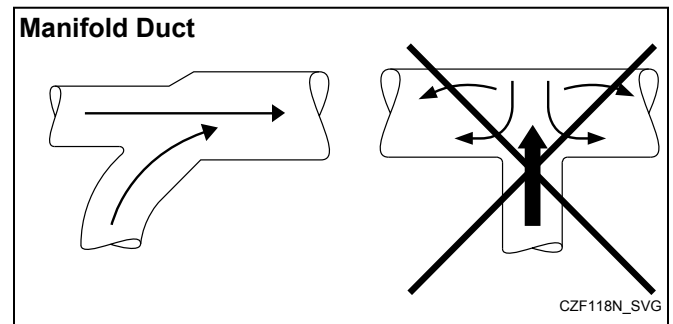

Figure 14
- Manifold duct must be tapered, refer to *Figure 14*. Individual ironer duct must enter manifold duct at a 45° angle in the direction of airflow.
**NOTE: Never connect ironer duct at a 90° angle to a collector duct. Refer to *Figure 14*. Doing so will cause excessive back pressure, resulting in poor performance. Never connect two ironer exhaust duct directly across from each other at the point of entry to manifold duct.**